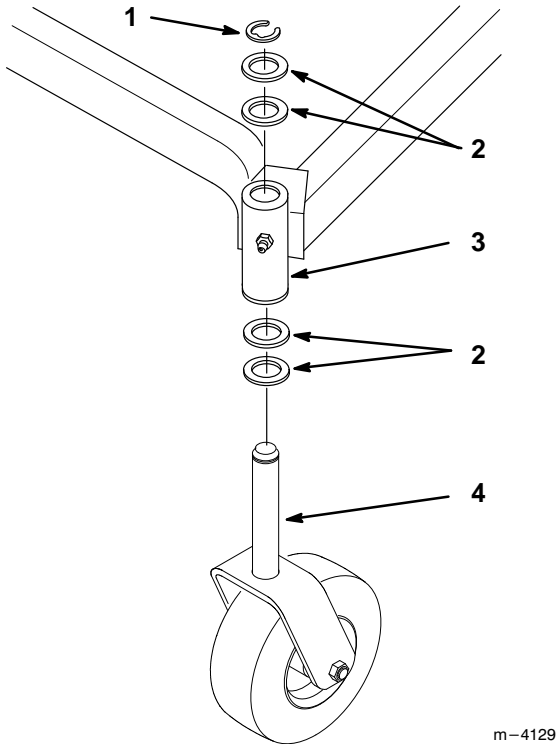

Figure 1
1. Place the (2) thrust washers onto the castor wheel fork (Fig. 1).
2. Insert the castor wheel fork into the carrier frame mounting tube (Fig. 1).
3. Install (2) thrust washer onto the castor wheel fork, then secure with a retaining ring (Fig. 1).